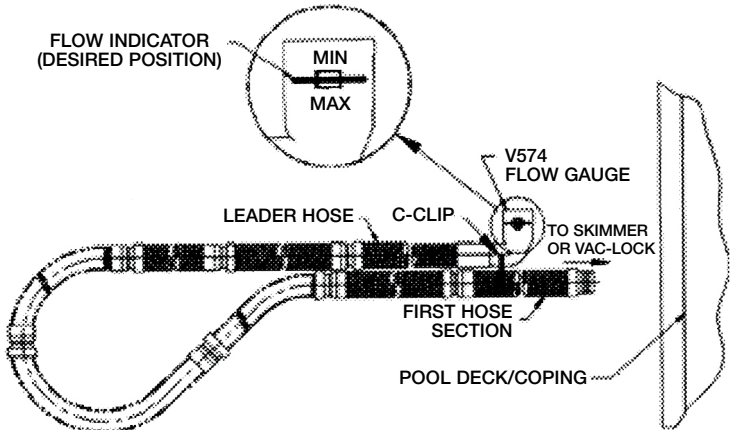
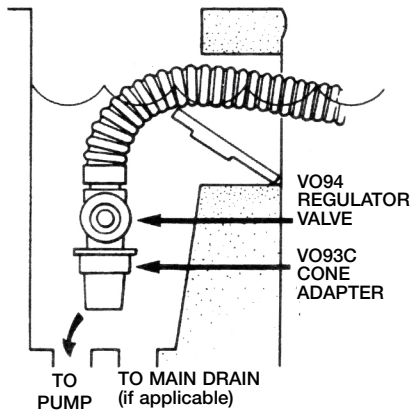

Figure 2
Figure 4
The hose should reach from the skimmer or dedicated vacuum line to the furthest point in the pool, **plus two (2) extra hose sections.** (The length of each hose section is four feet.) **This extra length is absolutely necessary for proper operation of the Pool Vac Ultra.** If the hose is not long enough, it will be necessary to purchase additional hose sections from your Hayward Pool Vac Ultra dealer. The hose length supplied (40 feet) has been determined to be sufficient for the majority of pools nationally. If your hose requirement is more than this, you must obtain additional hose sections for your cleaner to work properly. After the correct hose length has been assembled, fill hose completely with water. Insert Flow Gauge into the leader hose, then attach the C-Clip of the gauge onto the first hose section. Make sure the Flow Gauge is under water. (see Figure 2)
Check the water flow reading on the Flow Gauge. (Refer to Step 4, Figure 2). The black disk should be in the box between the "MIN" and "MAX" markings. If the setting is higher than required with the black disk outside of the box on the "MAX" side and you have connected your hose to the skimmer, it will be necessary to reduce the vacuum/water flow by using a valve or valves in the filter system, or the Hayward V094 Regulator Valve or an optional Hayward Automatic Skimmer Vacuum Plate designed to adjust vacuum/water flow. To install the V094 Regulator Valve, turn the filter system off. Remove the hose from the V093C Skimmer Cone, and after closing the Regulator Valve (Rotate the blue collar clockwise/toward + until closed/tight), insert the Regulator Valve into the Skimmer Cone, and insert the hose end into the Regulator Valve (see Figure 4).
If you have connected your hose to a dedicated vacuum line it will be necessary to adjust the vacuum/ water flow using the 3-way valve at the filter system. The handle on the valve should be turned so that the Flow Gauge which is installed in the Pool Vac Ultra hose reads properly (refer to Figure 2).
Some skimmers have two (2) holes in the bottom. There might be a valve, float or cover over the holes. Remove everything in the skimmer, exposing the holes. The rear hole is usually the suction port. In some cases it will be necessary to use the V094 Regulator Valve to control water flow through the Pool Vac Ultra (*see Figure 4*).